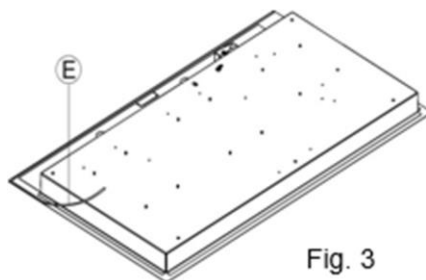

Fig. 3
3. Overturn the cooktop and correctly position seal "E" (fig. 3) under the edge of the cooktop itself, so that the outer side of the seal perfectly matches the outer edge of the cooktop. The ends of the strips must fit together without overlapping.